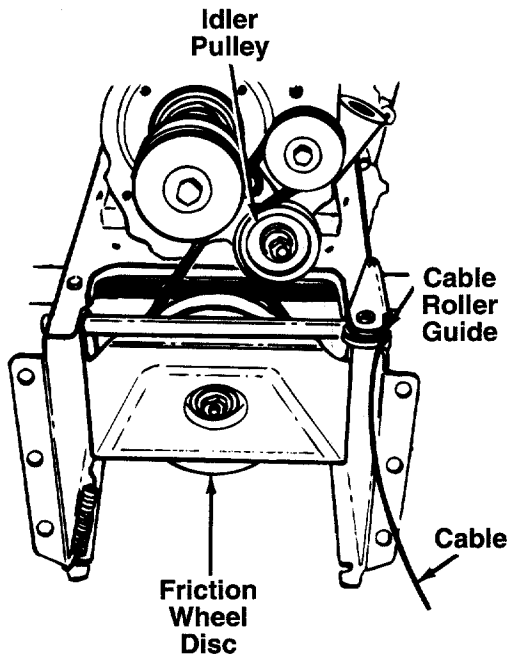

FIGURE 22.
- If a replacement drive belt is needed, follow previous instructions. Pull idler pulley up and lift belt off friction wheel disc. See figure 22. Reassemble in reverse order.
NOTE: When reassembling the two halves of the unit, the auger drive cable must be routed through the cable roller guides as shown in figure 22.